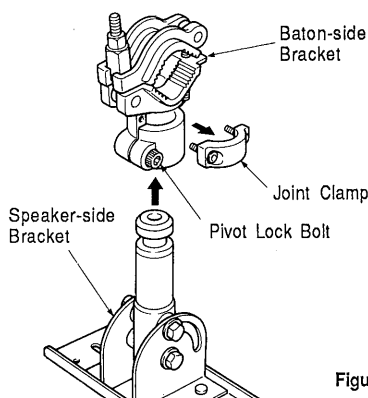

Figure 1
- Using the large hexagonal wrench provided, loosen the pivot lock bolt. Then, using the small hexagonal wrench, remove the joint clamp bolts and joint clamp. Separate the speaker-side bracket from the baton-side bracket. (Figure 1)